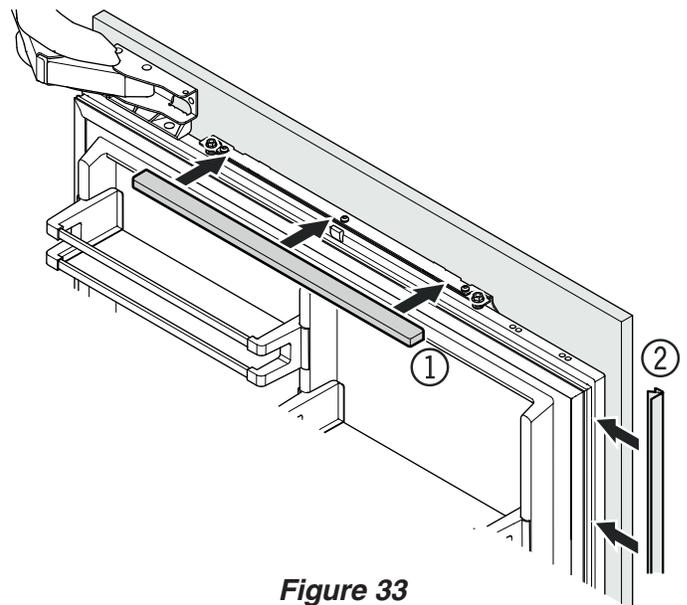

Figure 33
11. Click cover ① into place.
Insert the cover strip provided ② between refrigerator door and panel (**Figure 33**).